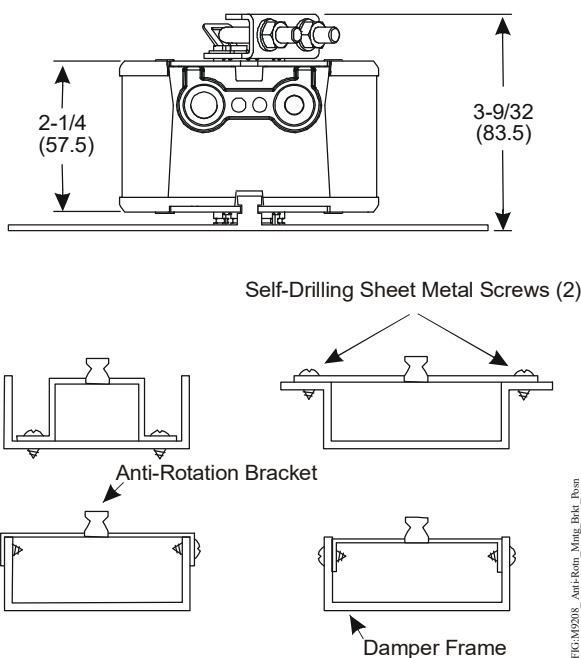

Figure 6: Anti-rotation mounting bracket
2. Bend or cut the anti-rotation bracket to fit the damper frame or duct as illustrated in Figure 6.
5. Slide the actuator onto the damper shaft, and position the anti-rotation bracket tab into the slot at the bottom of the actuator as illustrated in Figure 6.